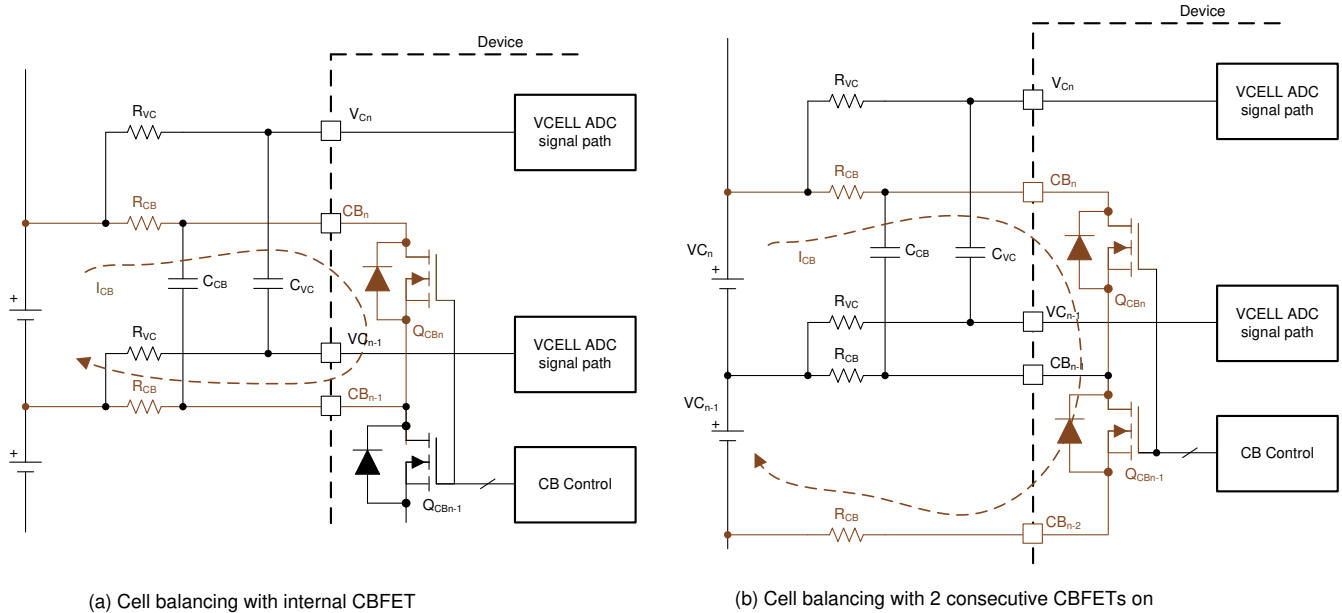

Figure 9-13. Internal Cell Balancing and the Flow of Balancing Current
- Balancing with no consecutive CBFET on (Figure 9-13 (a)): $I_{CB} = V_{Cell} / ((2 \times R_{CB}) + R_{dson_{QCB}})$
- Balancing with two consecutive CBFETs on (Figure 9-13 (b)): $I_{CB} = (\text{Sum of two } V_{CELL}) / ((2 \times R_{CB}) + R_{dson_{QCBn}} + R_{dson_{(QCBn-1)}})$
- Manual balancing control ($[AUTO_BAL] = 0$): With this method, the device will turn on the CBFETs that have non-zero balancing timer settings once $[BAL_GO] = 1$ is received. There is no odd and even channel switching during the cell balancing and the $BAL_CTRL1[DUTY2:0]$ setting does not apply under this control. Host MCU can enable two consecutive CBFETs with this method and a maximum of eight CBFETs can be enabled. When two consecutive CBFETs are enabled with both channels connected to battery cells, the balancing current is significantly different compared to no adjacent CBFET being on (Figure 9-13). The $DEV_CONF[NO_ADJ_CB]$ bit is provided to avoid inadvertent enabling of an adjacent CBFET for a system that is not intended to have an adjacent channel on for balancing. In this control method, the device is relying on the MCU to enable the proper channels. If the MCU sends $[BAL_GO] = 1$ but the CBFETs are enabled with an invalid condition, the device will not start balancing and will set $BAL_STAT[INVALID_CBCONF] = 1$. Invalid configurations are either: